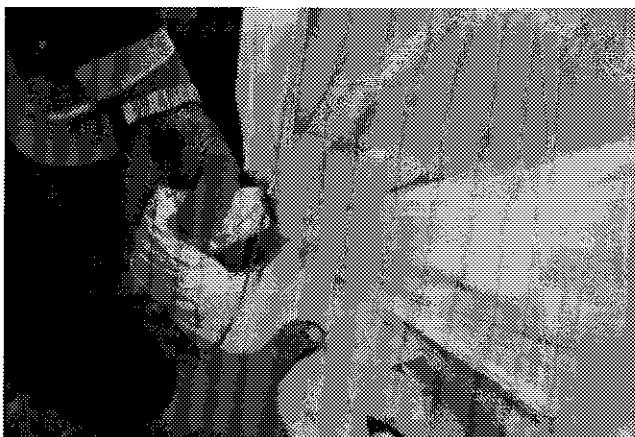
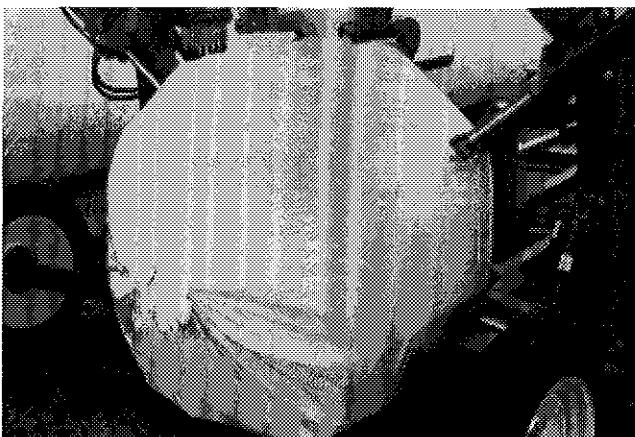

Figure 28
Figure 29
- 7) Now it's time to close the end of the tube. Pull out the outer ply for approximately 36" (91 cm) and tie properly. (Fig. 28 and Fig. 29)
- 12) Close up end of tube as previously described. (Fig. 28 & Fig. 29)